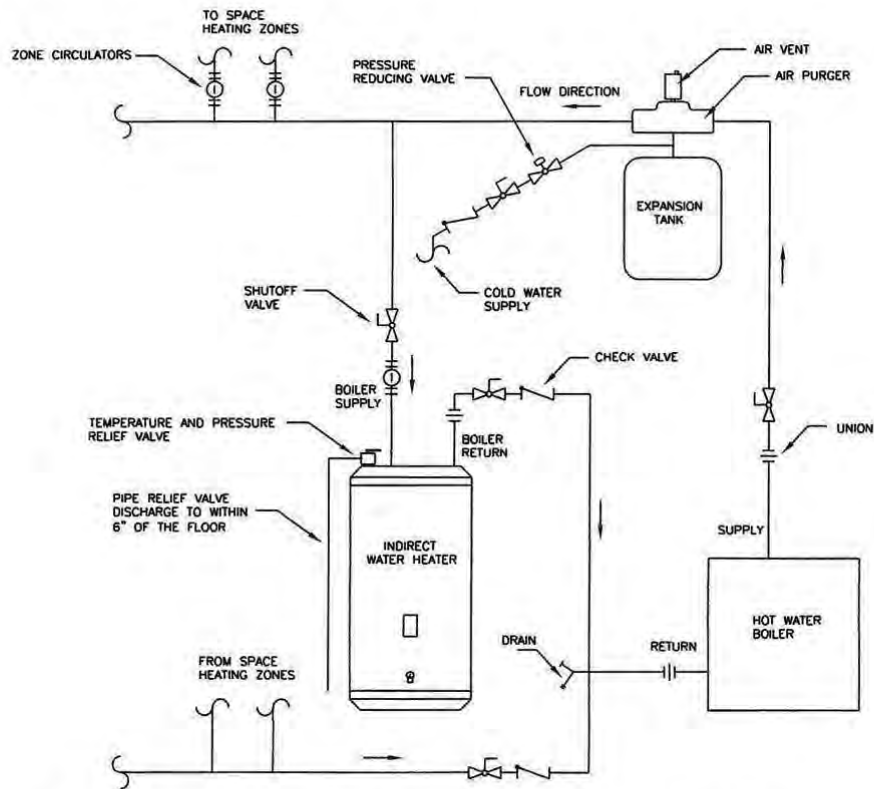
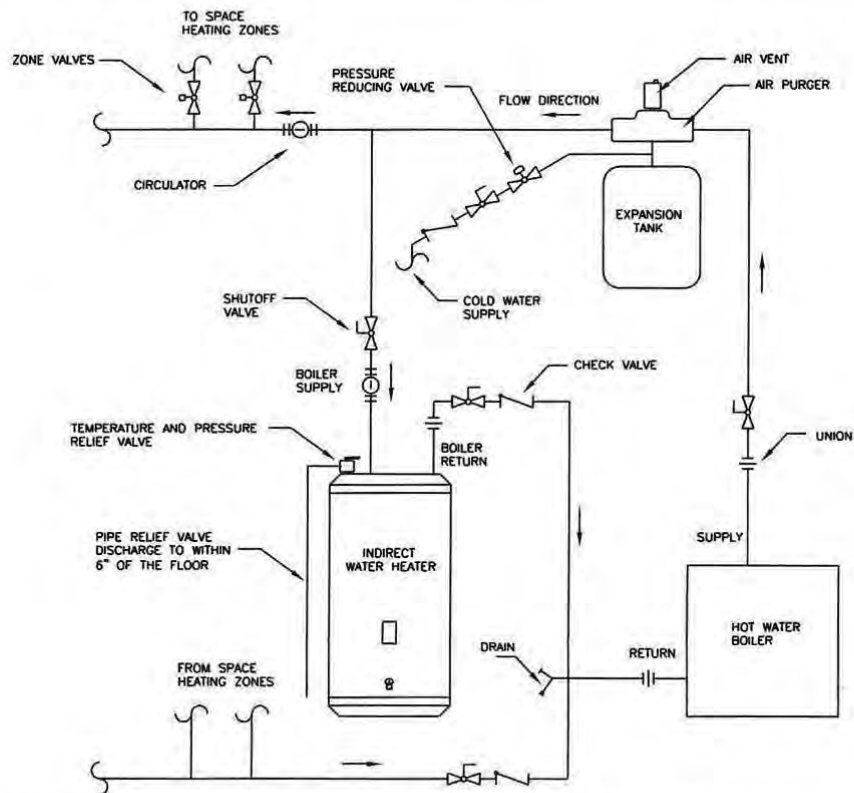

FIGURE 2 – BOILER WATER PIPING WITH ZONE CIRCULATORS
FIGURE 3 – BOILER WATER PIPING WITH ZONE VALVES
WATER BOILER PIPING (Refer to Figures 2, 3 on Pg. 10)
1. Determine where the boiler, the space heating, and the water heater connections should be made based on the type of piping system that is either in place, or is to be installed for a new hydronic system installation. See Figure 2 (Boiler Water Piping with Zone Circulators) and Figure 3 (Boiler Water Piping with Zone Valves).
For space heating systems that use Zone Circulators, refer to Figure 2. The water heater connection labeled "BOILER SUPPLY" should be piped to the boiler supply piping after the air purger and before the space heating takeoffs. Mount the water heater circulator as close to the water heater as possible, and make sure the flow arrow points toward the water heater. The use of shut-off valves is recommended for future service convenience.
For a space heating system that uses Zone Valves, refer to Figure 3. The water heater connection labeled "BOILER SUPPLY" should be piped to the boiler supply piping after the air purger and before the space heating circulator. Mount the water heater circulator as close to the water heater as possible, and make sure the flow arrow points toward the water heater. The use of a shut-off valve is recommended for future service convenience.